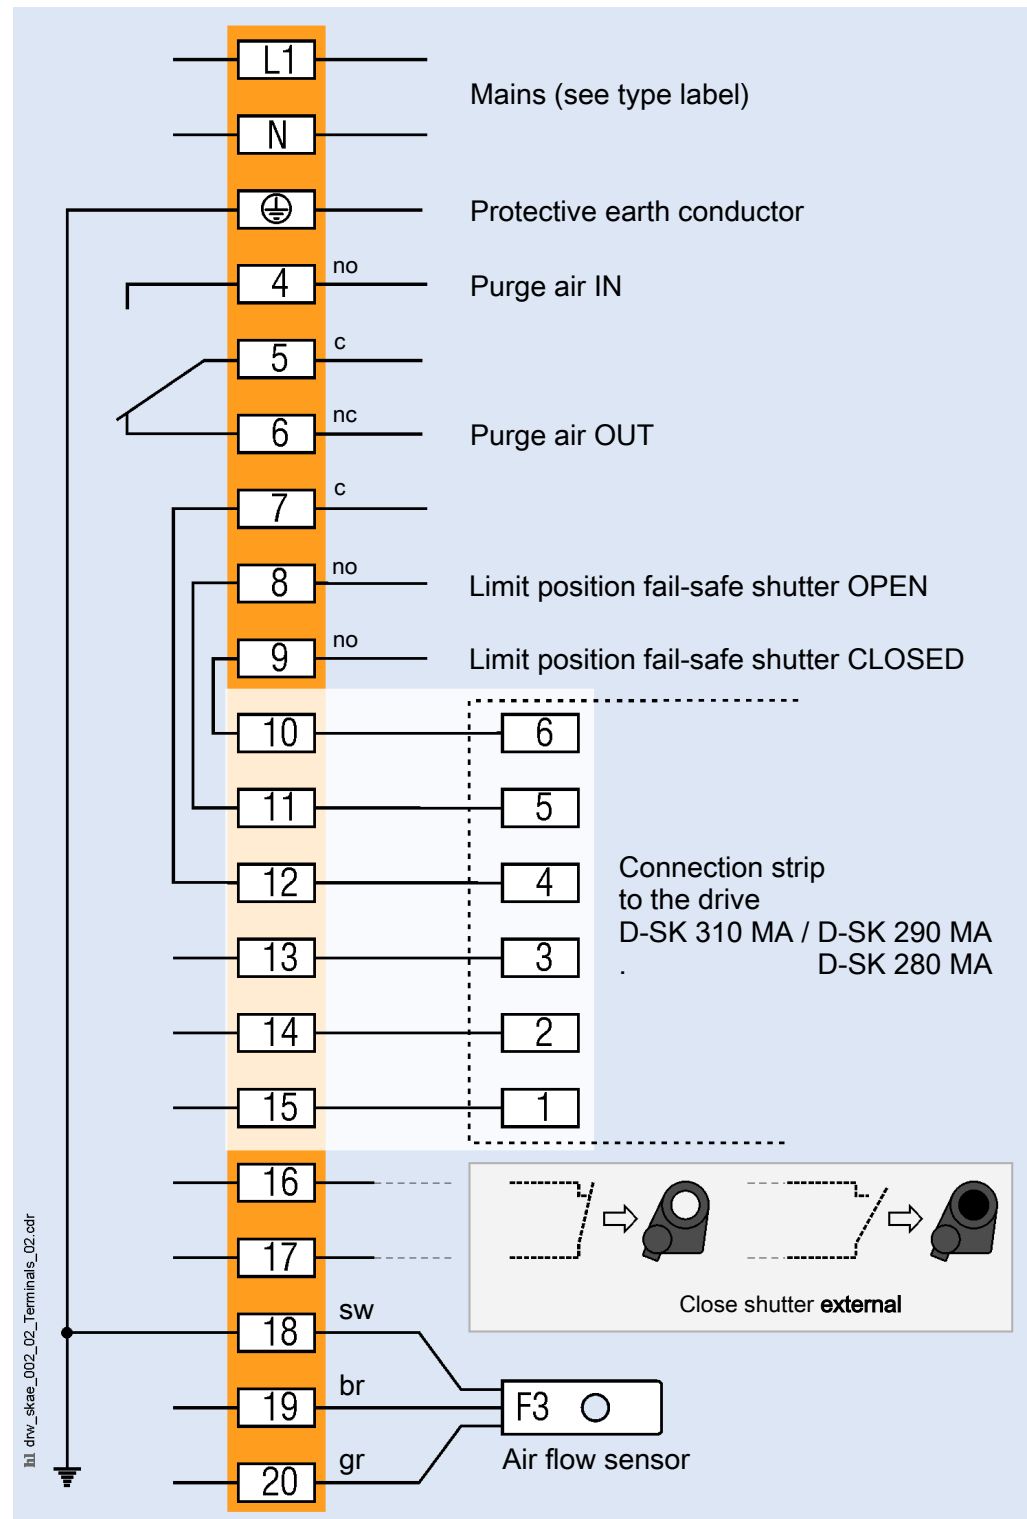
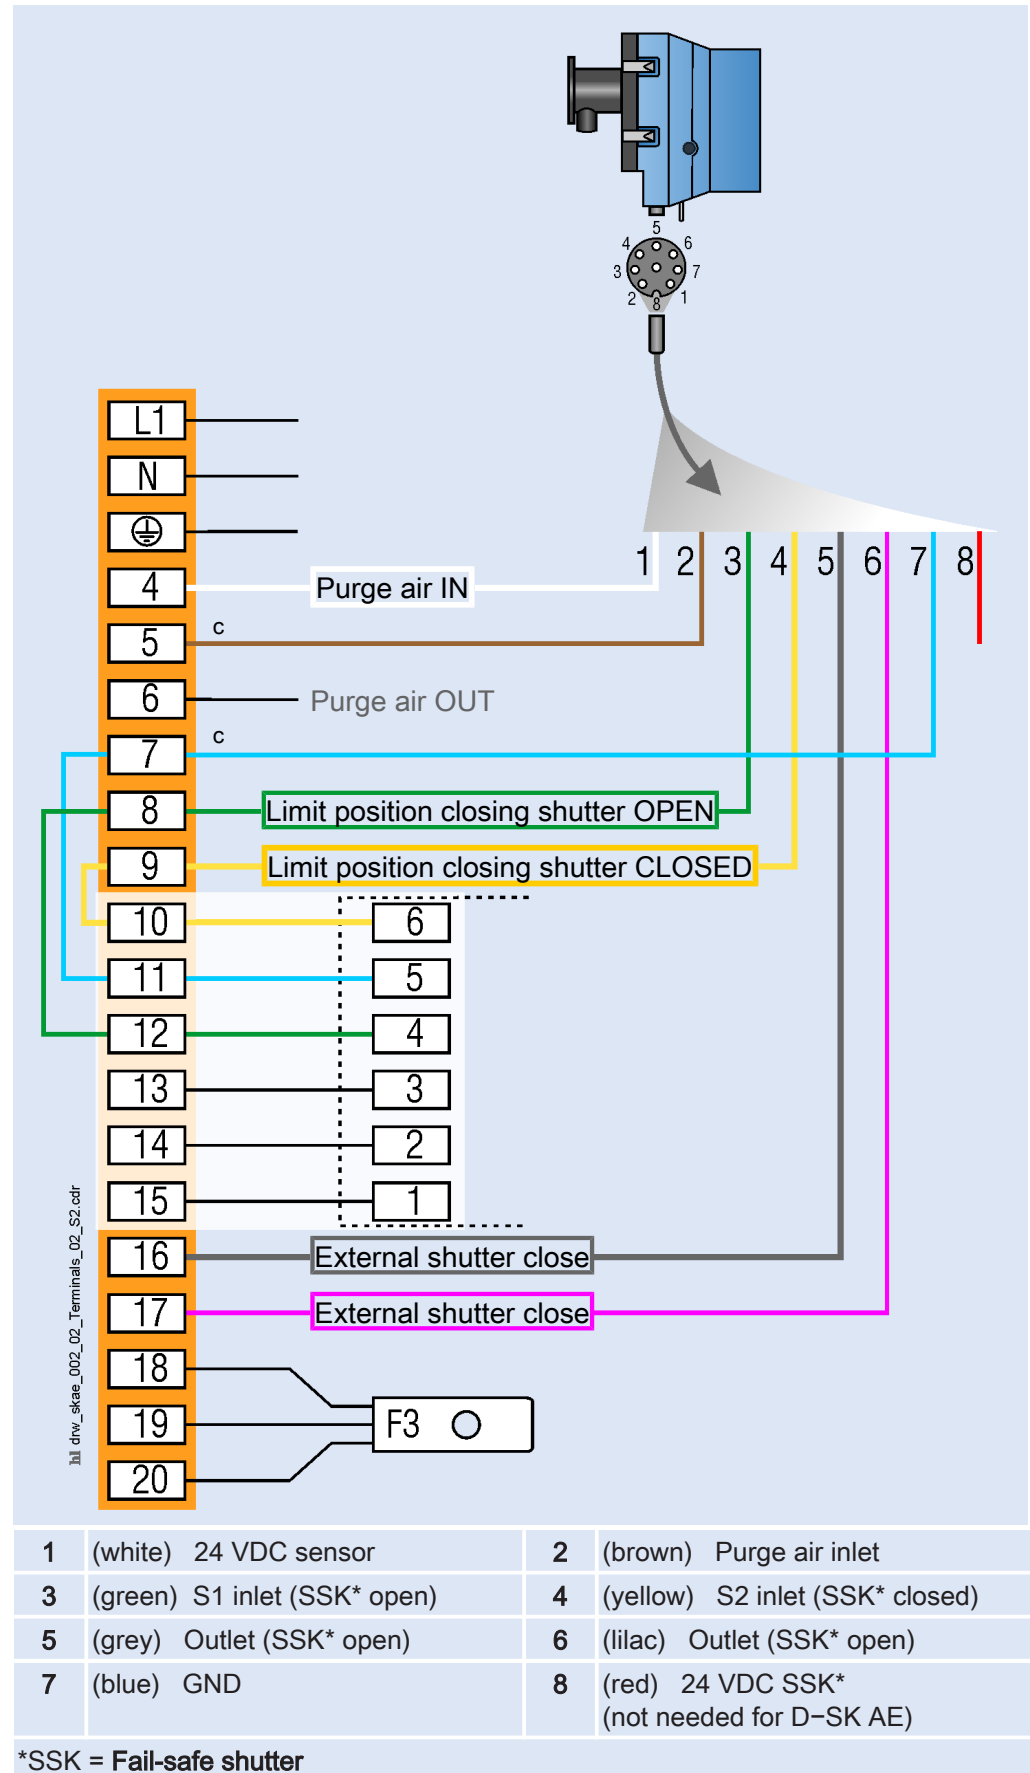

Fig. 5.22: Electrical connection to the D-SK AE
Fig. 5.23: Connection of the fail-safe shutter to the 8-core plug cable of the measuring head
If monitoring and control of the fail-safe shutter is performed via the measuring head, the plug end of the 8-core cable already installed should be plugged into the respective panel jack in the measuring head. The free end of the cable is connected to the respective terminals in the control device of the protective device (D-SK AE) (Fig. 5.23).
- via a 6-core cable between the D-SK AE control electronics and the D-SK 290 MA fail-safe shutter (Fig. 5.22 , Fig. 5.23).
- via an 8-core cable between the D-SK AE and the measuring head (Fig. 5.23).
- via the 3-core cable already installed between the air flow sensor and the D-SK AE control electronics (Fig. 5.22 , Fig. 5.23)
If the shutter does not open or close within 3 minutes, the measuring head sets a "shutter blocked" flag. The connection between terminals 16 and 17 (see Fig. 5.22) is then opened so that the shutter closes. This safety function can be deactivated by resetting the blocking message e.g. by using the D-ESI 100 software or by restarting the measuring head.